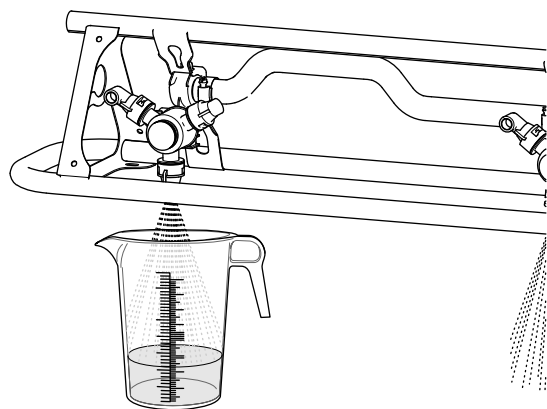

Figure 51
- Catch the water from the sprayer nozzle until the sprayer flow shuts off (Figure 51).